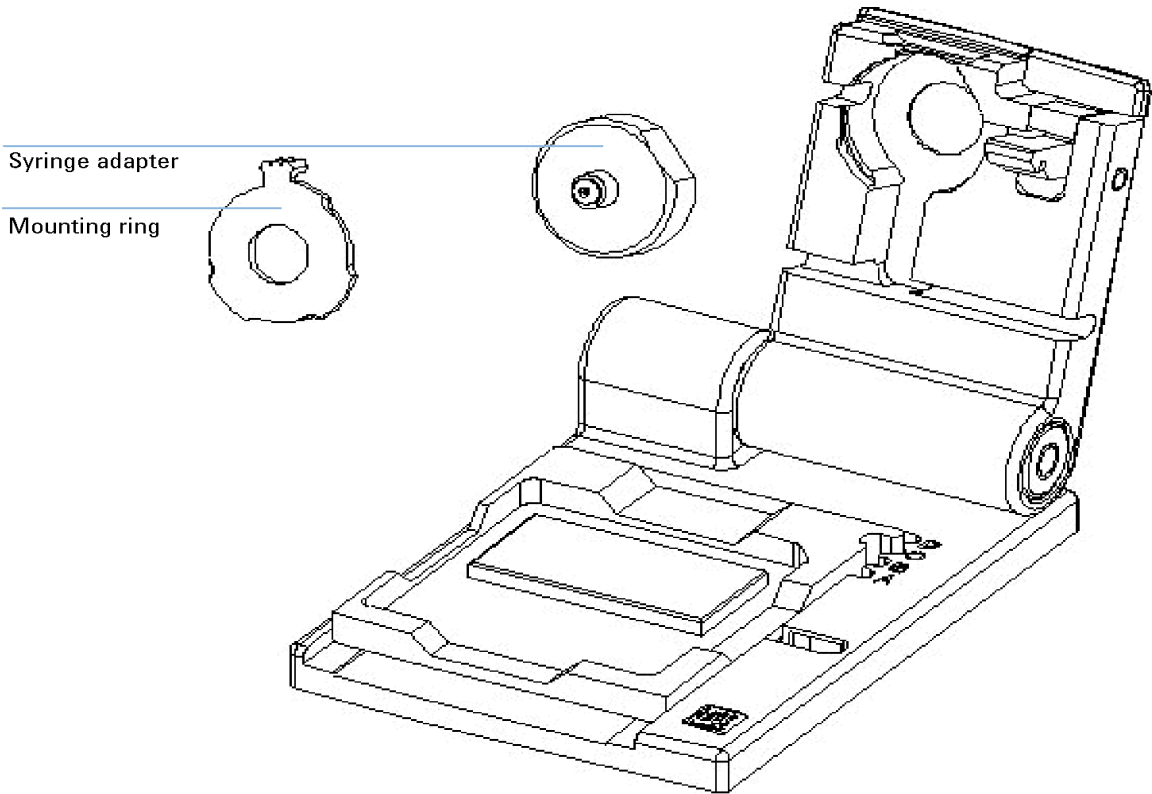

Figure 5 Removing/replacing the syringe adapter
- 3 Press the syringe adapter out of its mount as shown in Figure 5 on page 166.
- 8 Insert the syringe adapter, see Figure 5 on page 166.
- 3 Insert the syringe adapter, see Figure 5 on page 166.